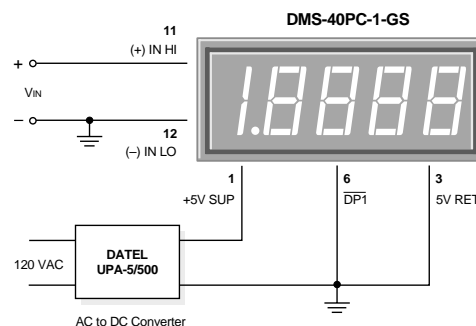

Figure 2. Single-Ended Input Configuration
- 1. Single-Ended Input Configurations:** The DMS-40PC can measure single-ended signals with either positive or negative polarities. True single-ended inputs always have one of their two terminals at the same potential as the DMS-40PC's 5V RETURN (pin 3). Single-ended inputs are usually derived from power supplies that have a common ground with the meter's +5V supply. Figure 2 shows the recommended connections to be used with this type of input. Pin 12, (-) INPUT LO, is shown directly tied to ground. This connection to ground must be a separate wire or pc-board trace originating at V_{IN} 's negative terminal. This hook-up will normally eliminate display instabilities and errors caused by ground-loop currents which can occur if (-) INPUT LO is tied to ground at, or near, pin 3.